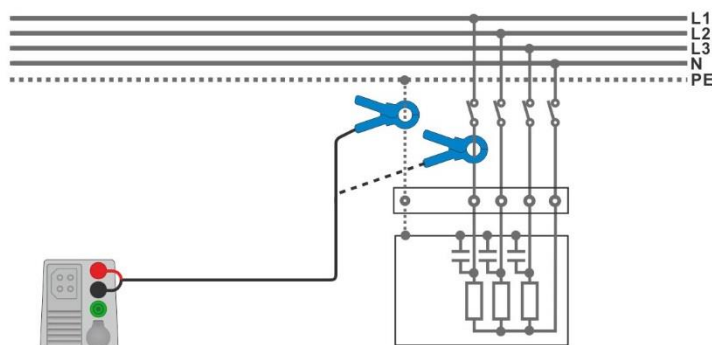

Figure 7.112: PE leakage and load current measurements
- › Connect the clamp to the object under test, see **Figure 7.112**.